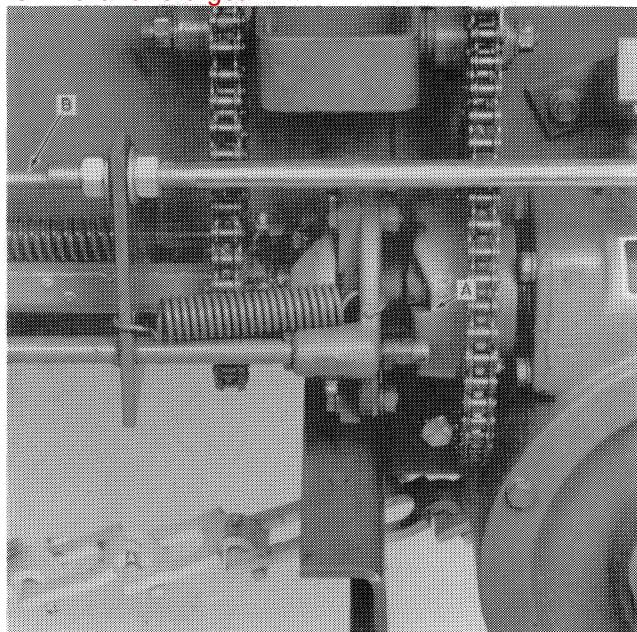

FIGURE 10
2. Rotate the drive shaft by hand until the clutch teeth and slow speed sprocket teeth engage as shown at A, Figure 10.
3. Adjust eyebolt, B, Figures 10 and 11, until the driving teeth of the shifting clutch are engaged fully with the teeth on the slow speed sprocket. Proper engagement is when both clutch and slow speed sprocket are flush to 1/16" (1.5 mm) extended from the sprocket tooth as shown at A, Figure 10.